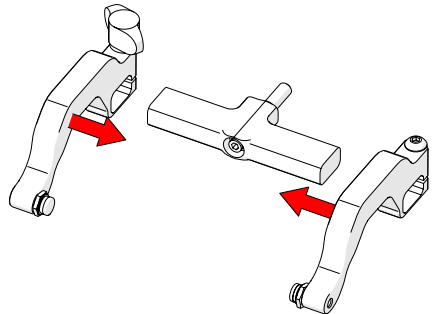

Fig. 183 - Place arms back onto yoke
6. Place the probe holder arms on the yoke and tighten the arm clamp screw and probe holder adjustment knob (Fig. 183).